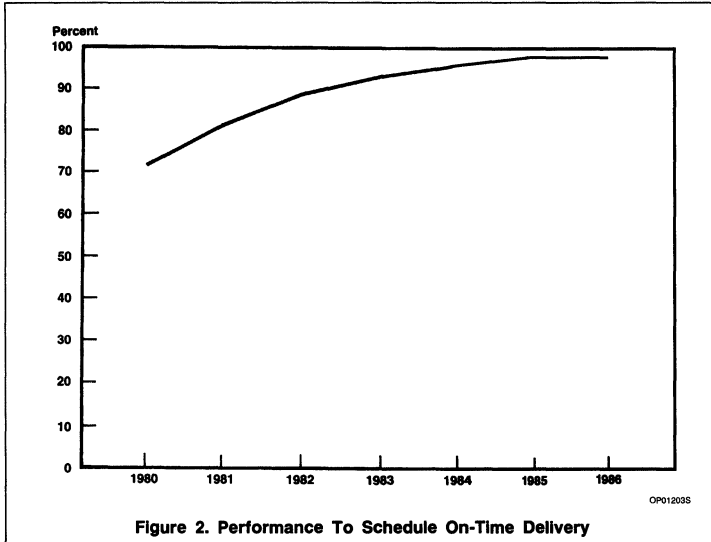
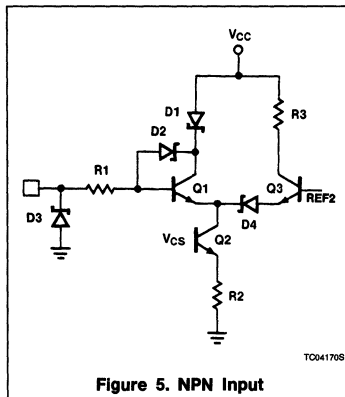
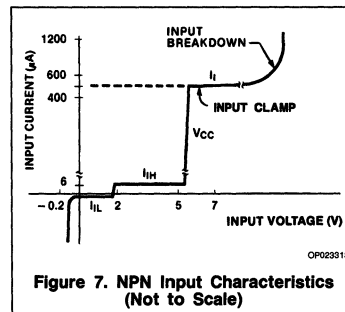

Figure 2. Performance To Schedule On-Time Delivery
Figure 5. NPN Input
Figure 7. NPN Input Characteristics (Not to Scale)
At Signetics, quality means more than working circuits. It means on-time delivery of the right product at the agreed upon price (see Figure 2).
The Logic Products Quality Assurance department has monitored PPM progress, which can be seen in Figure 5. We are pleased with the progress that has been made, and expect to achieve even more impressive results as the procedures for accomplishing these tasks are fine tuned.
The static diode input function of voltage versus current is shown in Figure 2. If the pin voltage is negative, most of the relatively high negative current flows through the clamp Schottky D2. At 0V the current flows from V_{CC} through R1 and D1 to the pin. Switching from a logic Low level to a logic High level occurs when the input pin voltage rises high enough to force the current from the D1 path to the Q3 - Q2 - Q1 path. This happens when the base voltage of transistor Q3 is at three base-emitter drops (3V_{BE}), and the pin is at 2V_{BE}, which is the standard FAST threshold switching voltage. At this voltage the input current is very small, just the leakage currents of diodes D1, D3, and clamp diode D2. The current remains at this small, positive value until breakdown voltage is reached.
The current of Figure 2 is scaled for the case where the pin is required to pull down a single 10KΩ resistor R1 (20µA maximum in the High state and 0.6mA maximum in the Low state), which is defined as a standard FAST Unit Load (UL). For some parts, pin current can exceed a UL, especially in the logic Low state. This will happen if the pin must sink the current from more than one R1 resistor, or if the value of R1 is less than 10KΩ, which will be the case if the capacitance at the base of the transistor Q3 is too large for the required switching speed. In this event, the actual number of ULs is listed for each input in the specification sheet for the part. Note: UL, as defined here, is less than the normally defined Schottky TTL Unit Load. The correlation is one Schottky Unit Load = 1.67 ULs. This is an important point to remember for fan-in and fan-out calculations in systems that mix FAST with other TTL families.
The NPN input is shown with two variations in Figures 5 and 6. It has limited use in standard TTL circuits, and is used in selected FAST devices, especially where its superior high-impedance input characteristics are useful. A typical plot of static input current versus input voltage is shown in Figure 7. There are some significant differences between this function and that of the diffusion diode input shown in Figure 2, the most important being the much lower input current in the region from 0V to
age, as shown by the I_I plateau in Figure 7. I_I provides a clamping action to ground for pin voltages in excess of V_{CC} , which is usually desirable to reduce overshoot.
For the case where V_{CC} is grounded or floating, the input current is nearly zero for positive voltages between zero and approximately 7V. The conducting path through $R1 - D2 - Q1$ is available, but the current source Q2 will be shut off because, without V_{CC} drive, the Q2 base reference V_{CS} will be at 0V. This is the specified standard setup for incoming inspection. For the incoming inspection testing case where V_{CC} is connected to a 5V source, the response is shown in Figure 7. The current remains on the Q2-limited plateau until the pin voltage is high enough to cause non-destructive collector-emitter reach-through of Q2. At this point, input current increases as the pin voltage rises, and R1 functions to limit this current and prevent damage to Q2.
The current-mode logic interface is shown in Figure 5. The output voltage is the drop across R3, and is referenced to V_{CC} (or some on-chip regulated voltage lower than V_{CC}) as is required for current-mode logic. For this case, voltage reference REF2 is normally fixed at $2V_{BE} + 1$ Schottky drop to provide a pin threshold voltage of $2V_{BE}$. In fact, REF2 can be tailored to set the switching threshold voltage to any desirable level; it can be set to something other than an integral number of